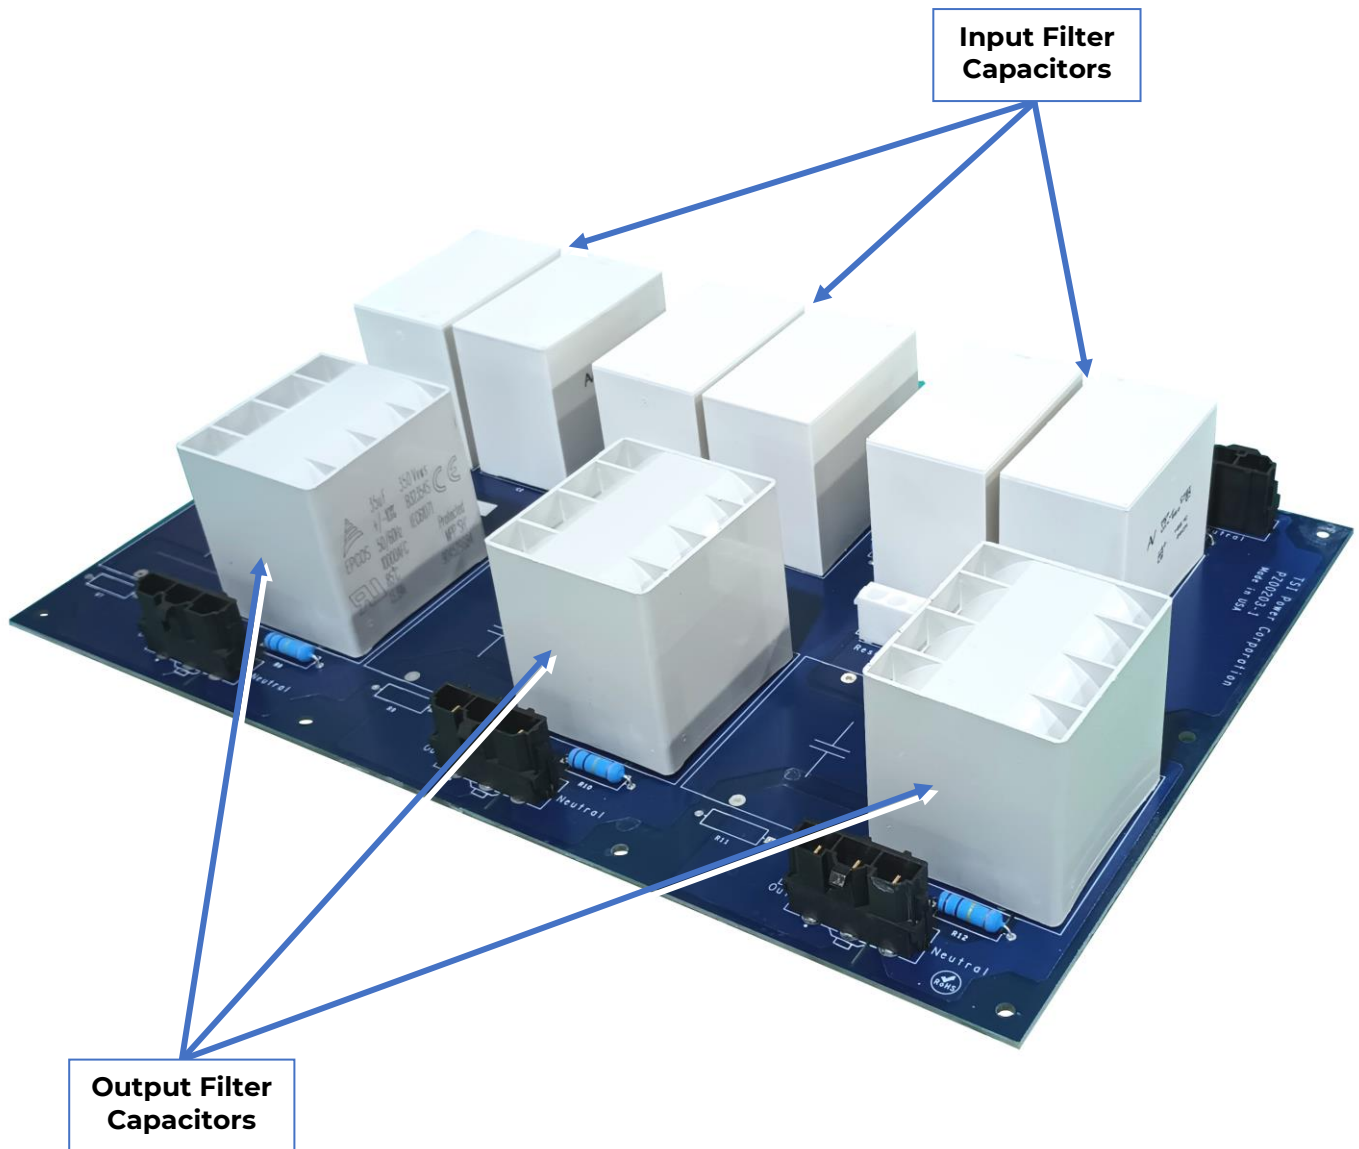

Figure 12: PZ00203 Filter Circuit Board Assembly
2.4 SURGE/FILTER CIRCUIT BOARD ASSEMBLIES -See Figures 12, 13, and 14